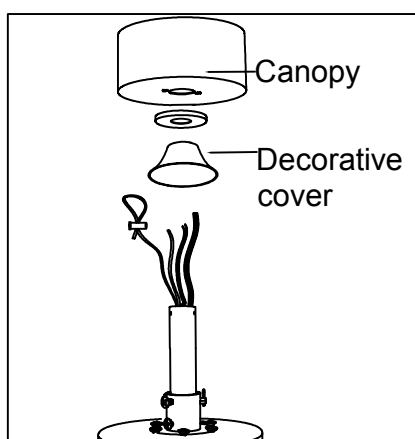

Figure 1.3
- Place all wires through the decorative cover And canopy.(Figure 1.3)